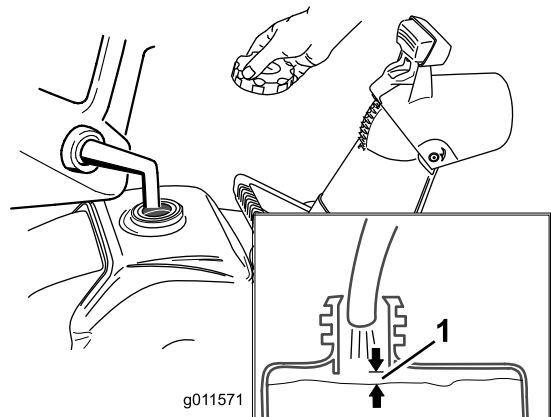

Figure 14
Fill the fuel tank with fresh unleaded gasoline having an octane rating at or near 87 from a major name-brand service station (Figure 14).
1. Ensure that the fuel tank is not overfilled (refer to Figure 14) and that the fuel cap is securely in place.